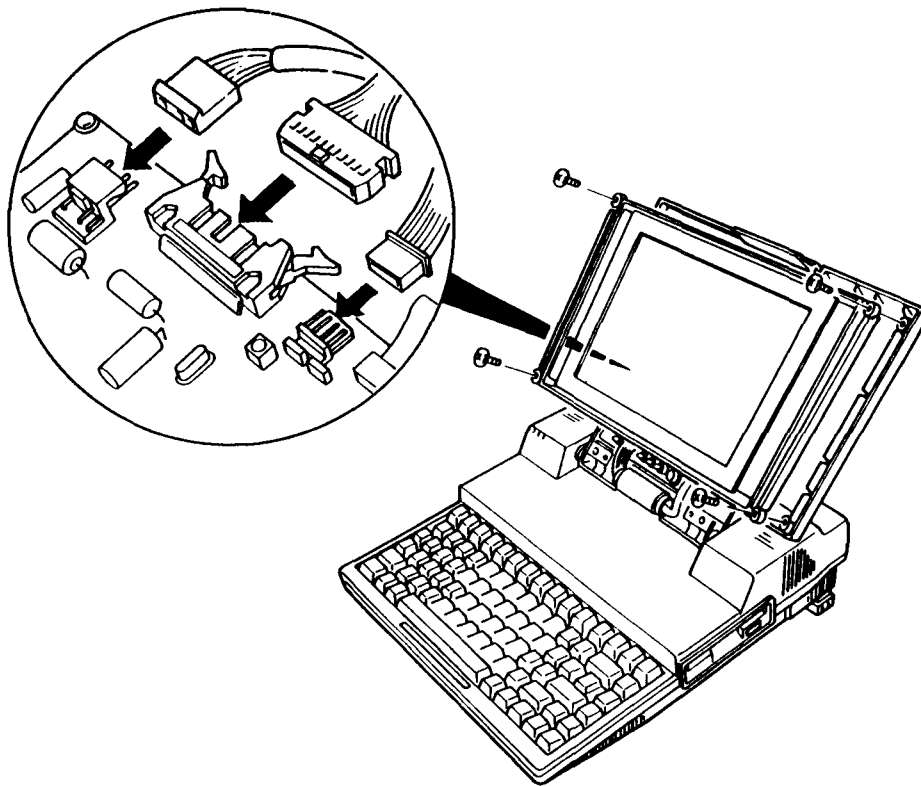

FIGURE 2-9 PDP Connector Check
1. Turn the contrast and brightness controls back and forth (Refer to figure 2-9) to check that the screen becomes darker or brighter.
2. Remove the PDP without disconnecting the cables (Refer to section 4.4.) and check that the cables are securely connected to the plasma display board (Refer to figure 2-9.)